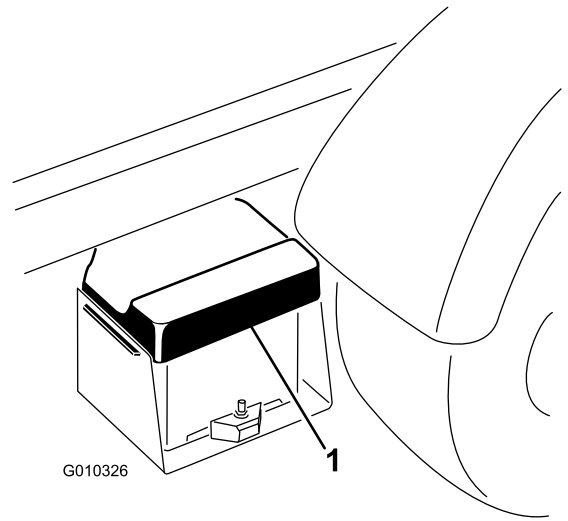

Figure 42
1. Squeeze the battery cover to release the tabs from the battery base and remove the battery cover from the battery base (Figure 42).